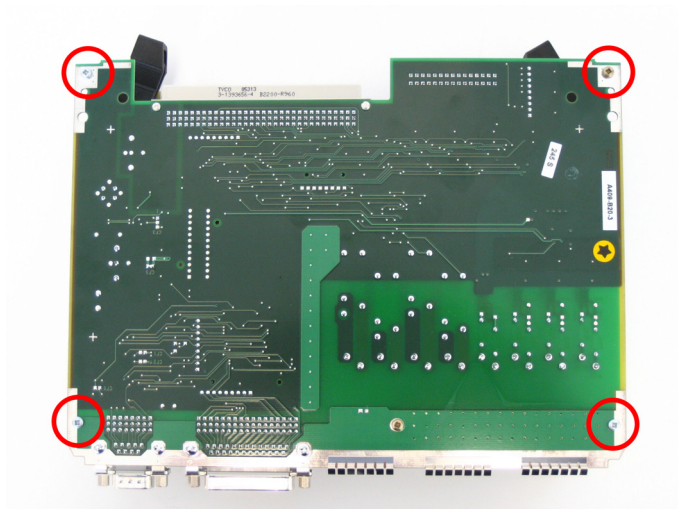

Figure 3-9 Fastening screws of the CPU module
- Release the screws on the CPU board (see Figure 3-9) and detach the two boards from each other.